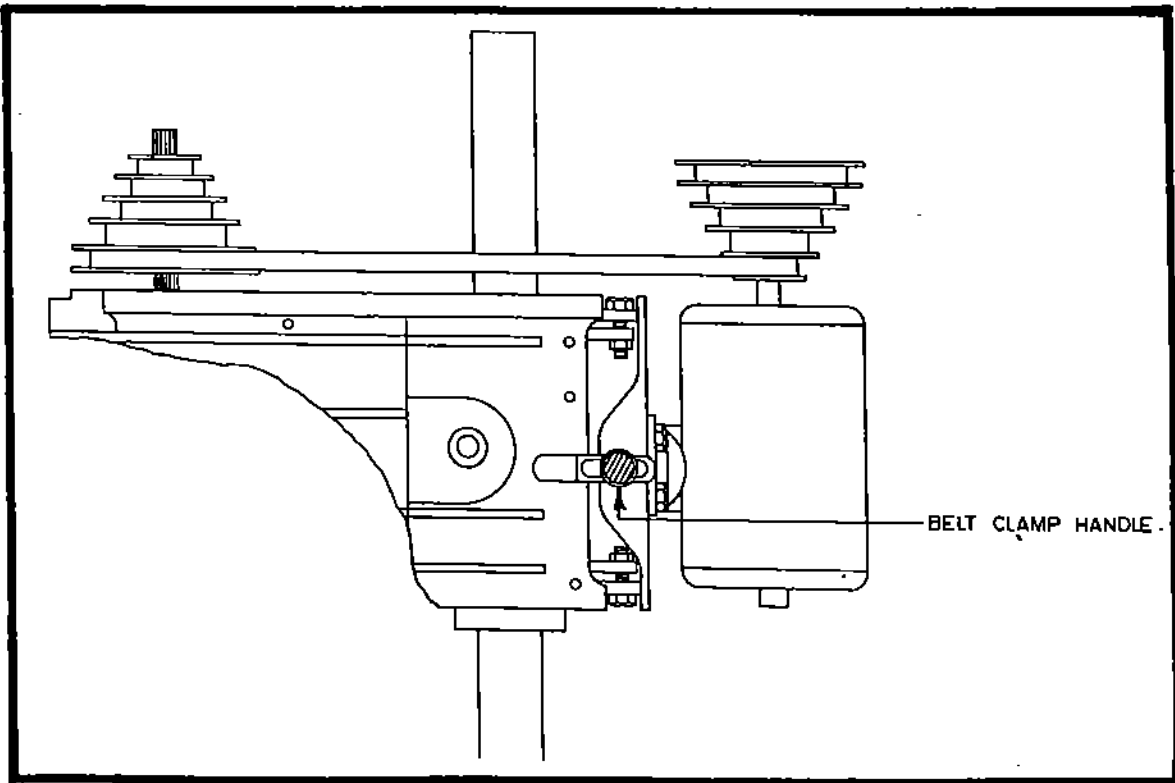

Figure 2
- c. Loosen belt clamp handle (Fig. 2) place belt over pulleys and into lowest speed grooves. Push belt clamp handle to rear for light belt tension and turn handle clockwise to lock. Too much tension will cause excessive vibration, shaft breakage, bearing noise and wear.
Speed changes on step pulley models are to be made with the machine not running—loosen clamp handle (Fig. 2) and pull toward operator. Belt is now free to move to any of the 5 speeds available. When speed choice is made, move clamp handle to rear for proper tension and lock by rotating clockwise.